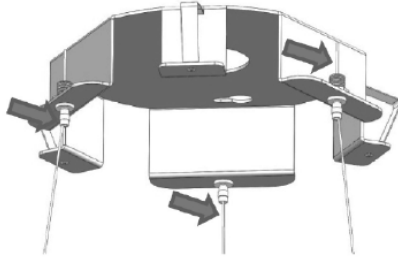

FIG.6
- › Remove the metal plate from the packaging and then put the steel cables through the appropriate supports (Fig.6).